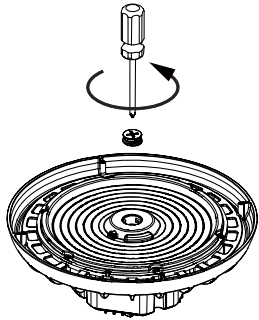

Figure 9
- 1). Removed the 1/2" stopper from the fixture. (figure 9)